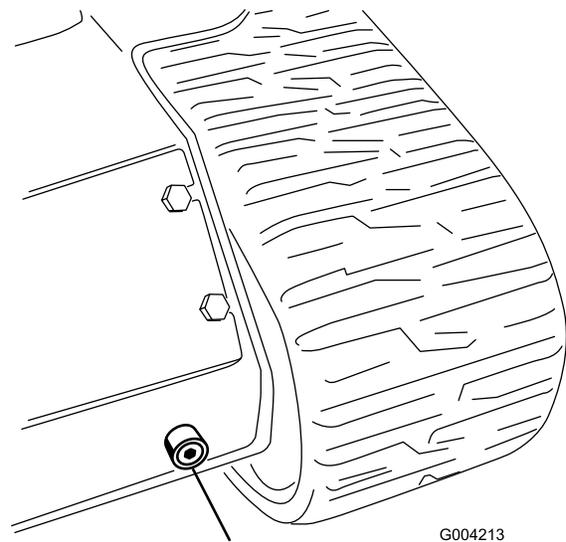

Figure 54
6. Place a large drain pan (capable of holding 15 US gallons) under the drain plug on the front of the traction unit (Figure 54).
7. Remove the drain plug and allow the oil to drain into the pan (Figure 54).